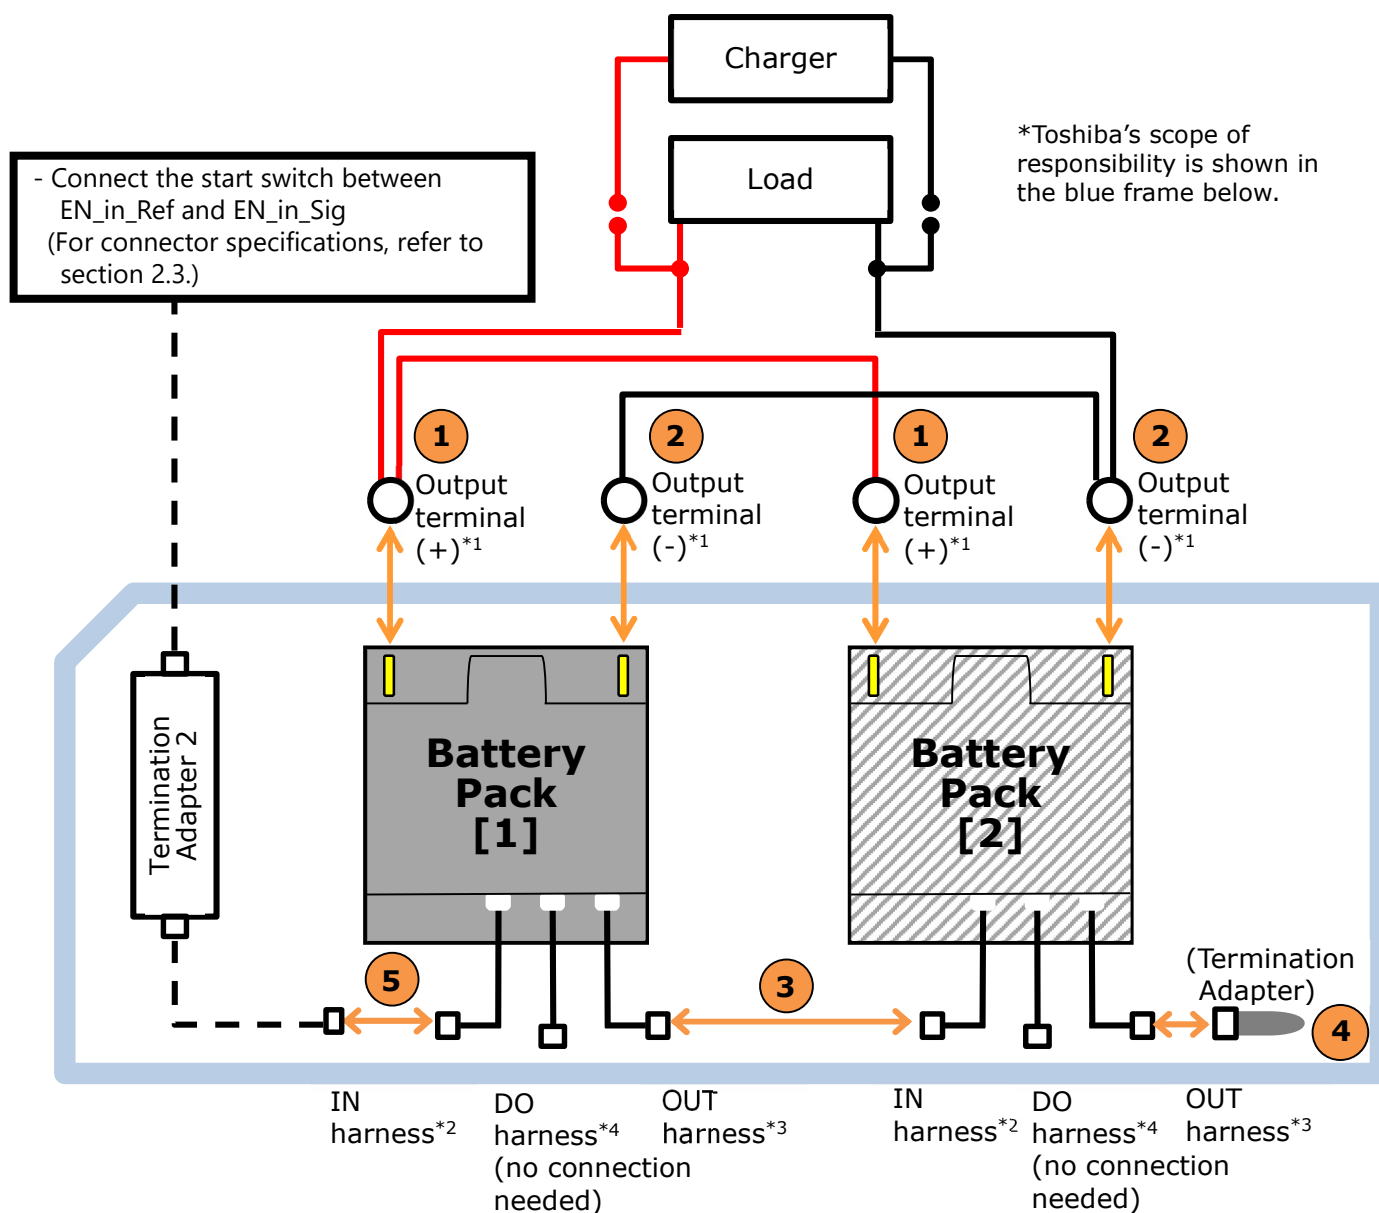

Figure 6-5 Connection Configuration with No CAN Communication or DO Output
Please connect each device from ① to ⑤ in order as shown in Figure 6-5.